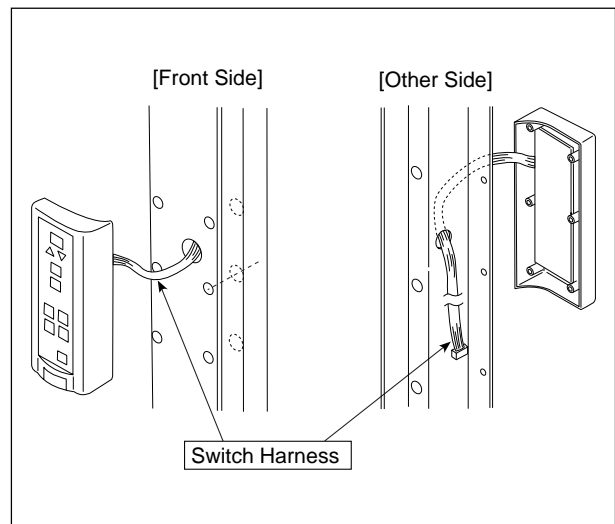

Fig. 8
- Be careful not to mistake the hole through which the Switch Harness is passed. (See Fig. 8.)